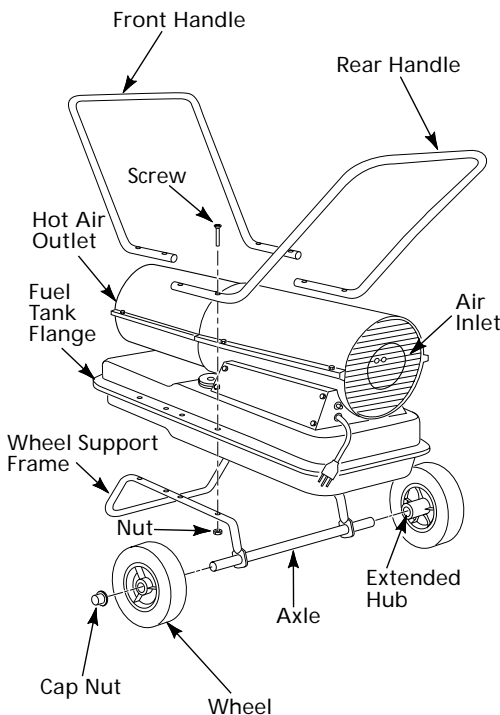

Figure 6 - Wheel and Handle Assembly, Models 3E218D and 3E219C Only
**IMPORTANT:** When installing wheels, point extended hub of wheels toward wheel support frame (see Figure 6).